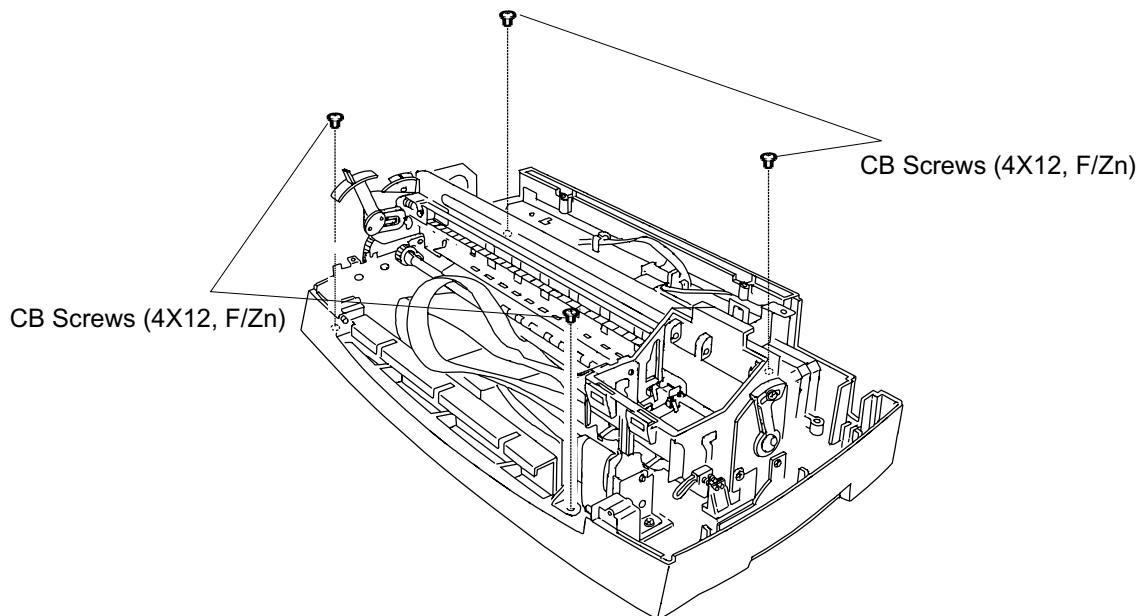

Figure 3-37. Printer Mechanism Screw Removal
3. Remove 4 screws (CB, 4x12, F/Zn) securing the printer mechanism to the lower case. (Refer to Figure 3-37.)